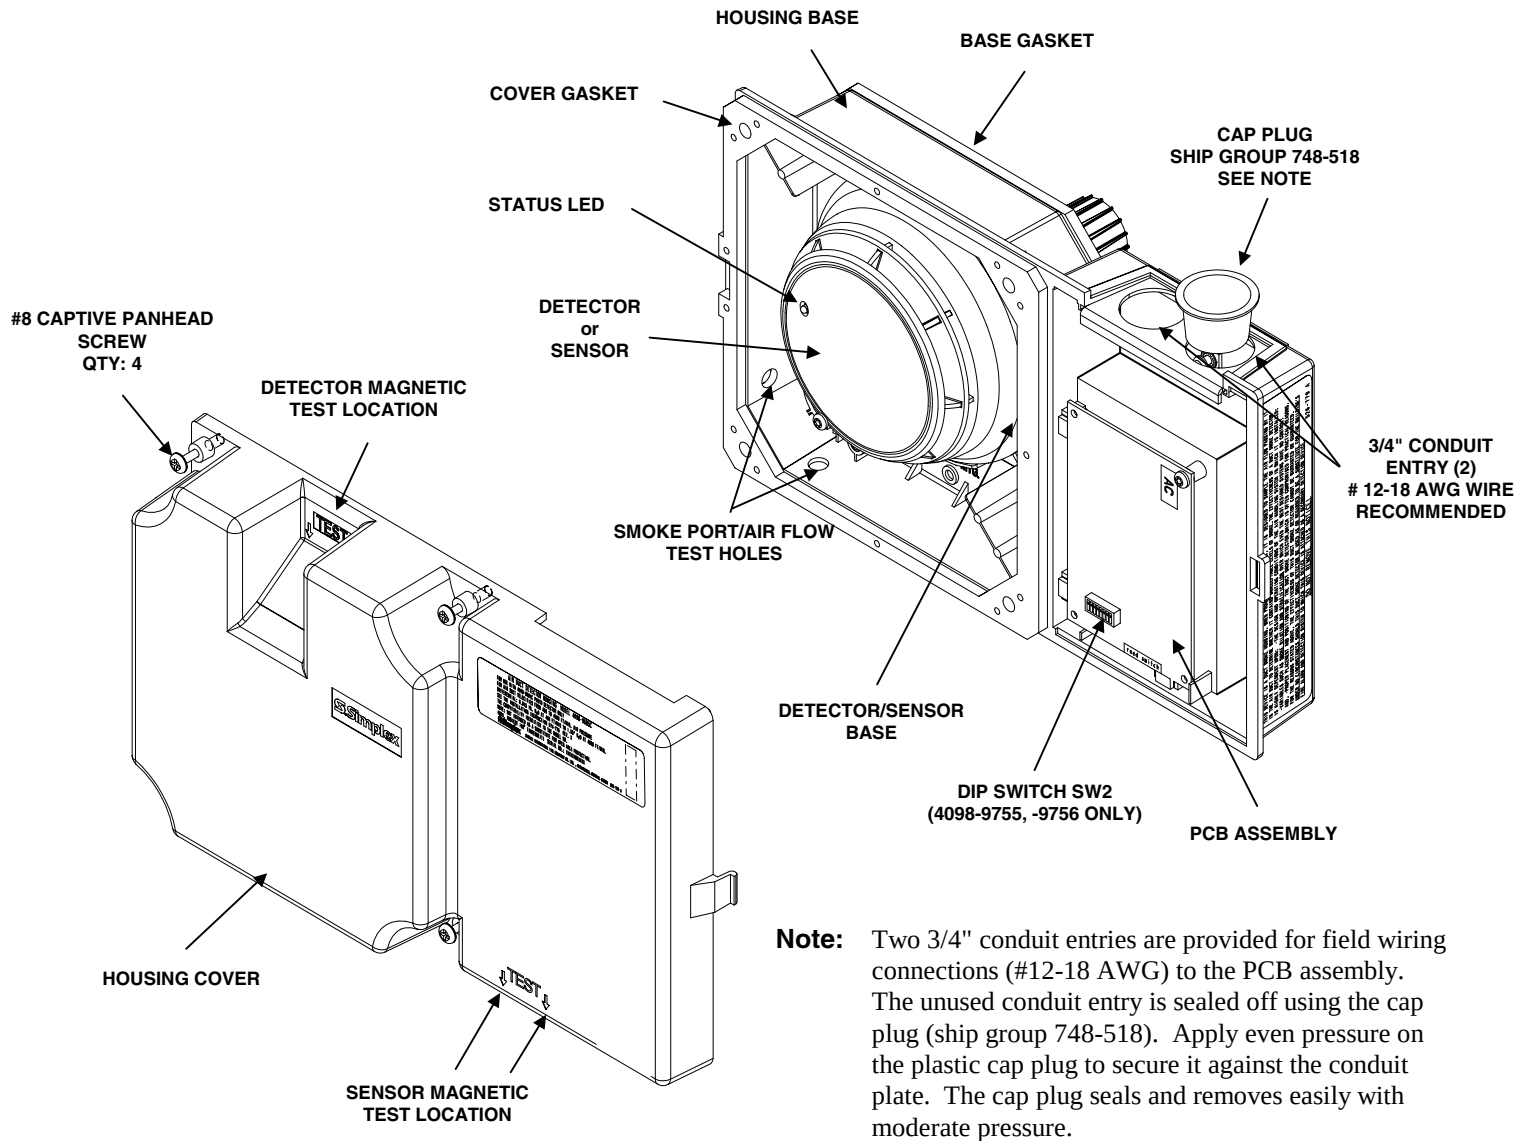

Figure 1. Duct Housing Components
The 4098 Duct Detector/Sensors (see Figure 1) are designed to sample air and detect smoke in air ducts. The 4098 Duct Detector/Sensors are available in the following configurations:
The procedures that follow are used to install the 4098-9755 or 4098-9756 addressable duct sensors. See Figure 1 for the location of the duct sensor DIP switches. The instructions provided show how to set the address at each sensor and also how to make electrical connections. Addressable smoke duct sensors are connected to a 2120 Multiplex Communicating Device Transponder (CDT), 4010 Fire Alarm Panel, 4020 Fire Alarm Panel, 4100+ Fire Alarm Panel, or 4120 Fire Alarm Panel by a single twisted-shielded wire pair (MAPNET II/IDNet).
2. Using the switch setting data for the duct sensor you are installing set the duct sensor's address using Figure 3. Loosen the four screws securing the clear plastic cover to the housing base. Locate the DIP switch on the duct sensor's PCB assembly in the wiring compartment (see Figure 1). Use a small screwdriver or pen to set the switches.
- Using the example given in Step 1 as a guideline, set the duct sensor's address using Figure 3. Loosen the four screws securing the clear plastic cover to the housing base. Locate the DIP switch on the duct sensor's PCB assembly in the wiring compartment (see Figure 1). Use a small screwdriver or pen to set the switches.